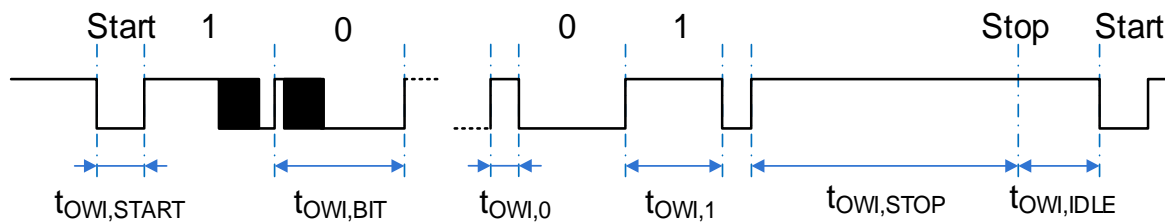
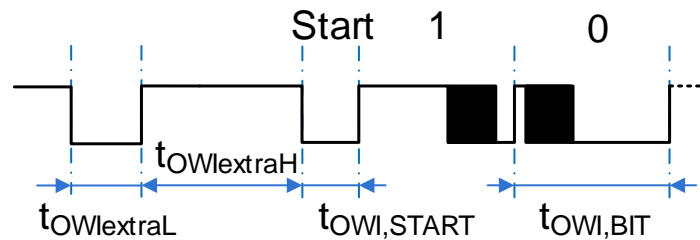

Figure 15. OWI Timing Diagram
Figure 16. OWI Extra (Activation) Pulse for Concurrent OWI and Analog Output Configuration
- **Valid Data:** Data is transmitted in bytes (8 bits) starting with the most significant bit (MSB). Transmitted bits are recognized after a start condition at every transition from low to high at the OWI line. The value of the transmitted bit depends on the duty ratio between the high phase and high/low period (bit period,  $t_{OWI,BIT}$  in Figure 15). A duty ratio greater than 1/8 and less than 3/8 is detected as 0; a duty ratio greater than 5/8 and less than 7/8 is detected as 1. The bit period of consecutive bits must not increase to more than 1.5 times the previous bit period or decrease to less than half of the previous bit period because a stop condition is detected in this case.
OWI protocol timing and parameters are specified in Figure 15, Figure 16, and Table 24.
- **Continuous OWI and Analog Output:** The configuration  $owi\_off = 0$ ,  $cont\_ANAOutn = 0$ , and  $owi\_su\_case = 1$  results in AOUT providing analog output levels as soon as they are available after power-up (in Cyclic Mode). Concurrently, the OWI listens to the AOUT1 pin in order to check for valid OWI commands. The OWI still needs to be enabled by means of the *Startup OWI* command. The physical protocol in this configuration requires an extra pulse (see Figure 16) prior the *Startup OWI* command. After the release of the extra OWI initialization pulse, the analog output is switched off2 and AOUT becomes the OWI I/O pin until the OWI startup window (according to  $owi\_su\_length$ ) has elapsed. The OWI-master implements *Dynamic Driving* to avoid dynamic currents (due to DAC-output level changes) causing unwanted pull-up signal generation (via ROWI,PULL). When *Dynamic Driving Approach* is not applied in this configuration, set the constantly connected OWI-master pull-up resistances (ROWI,PULL) to  $\geq 5.5k\Omega$  to prevent erroneous OWI-start detections that can be triggered by changing DAC-output levels. Limit the interface speed to slower values with the proper setting, such as longer bit period.